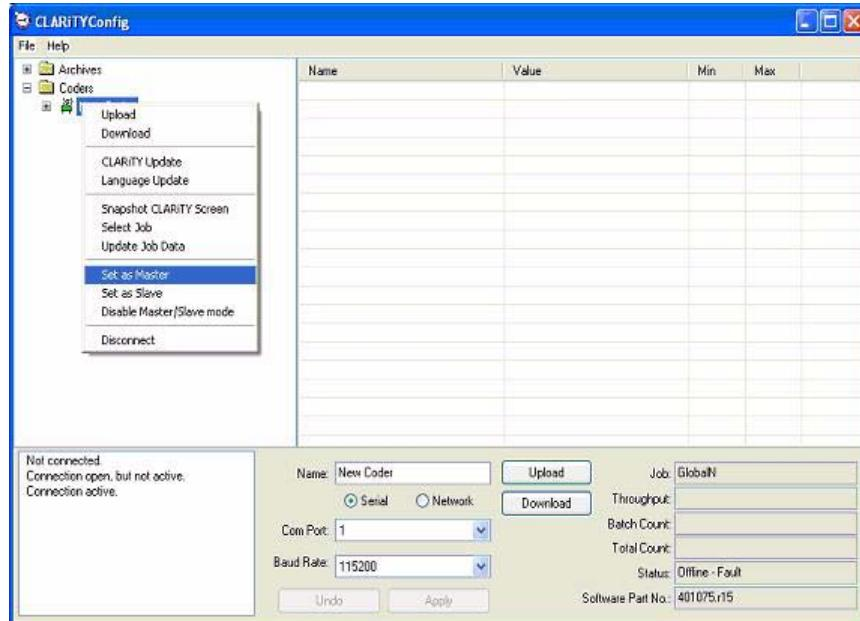

Figure 10-7: CLARiTY® Config - Master Setup
- 2 Right click on the 'New Printer' icon when the icon turns 'green' and Select 'Set as Master', from the list as shown in Figure 10-7.